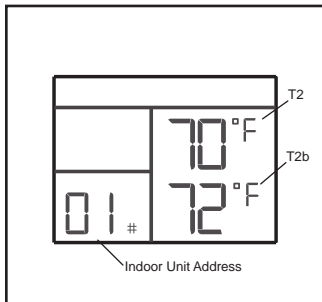

Figure 9. Indoor Unit Coil Temperature
- Indoor unit evaporator coil temperature (T2 and T2b) (Figure 9)